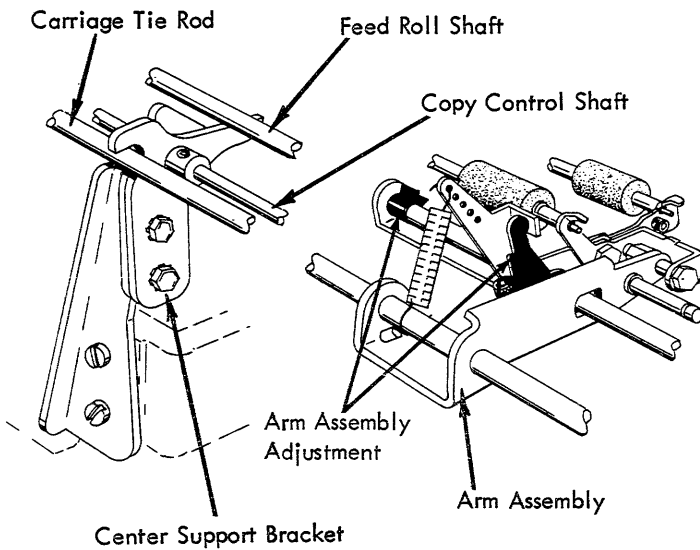

FIGURE 188. Center Support Bracket
- b. Late Paper Feed Mechanism - With the feed roll tension springs disconnected, the center support bracket (Fig. 188) should be positioned so that the forward lug just touches the underside of the feed roll shaft while the rear lug just touches the top of the carriage tie rod. The center support bracket should not bow the copy control shaft.
- b. Late - The left and right hand front feed roll arm assemblies should be adjusted to give end play to the feed roll shafts that will not permit them to contact the sides of the openings in the deflector but will permit them to roll freely (Fig. 188). Not Shown.